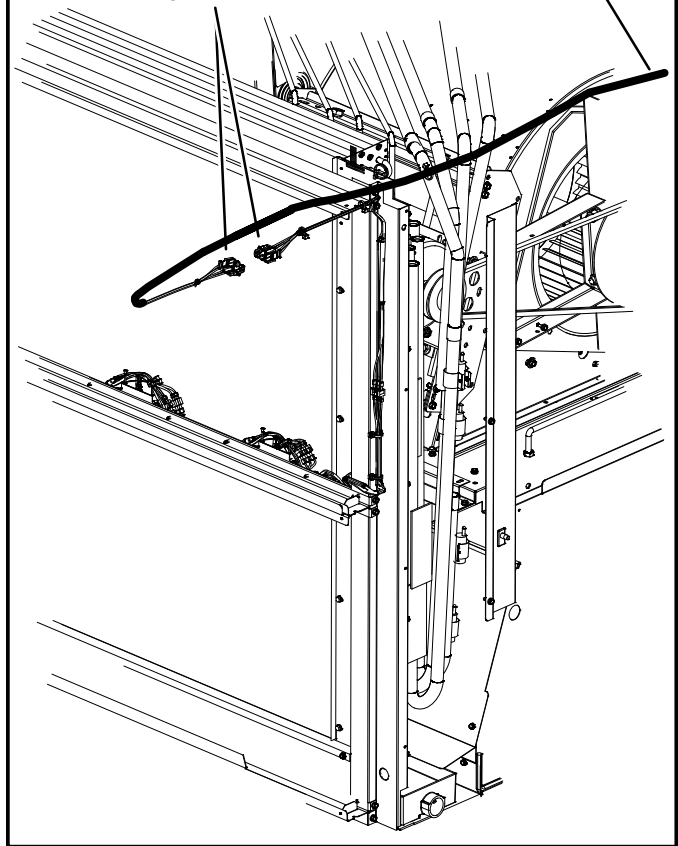

FIGURE 13
- 4- Connect the 2-pin P422 plug (routed to the filter or blower section) to the ionizer P422. See figure 13.
- 4- Connect the 2-pin P422 plug (routed to the filter or blower section) to the ionizer P422 plug. See figure 13. On 024-150 units, bundle excess wiring in blower section.